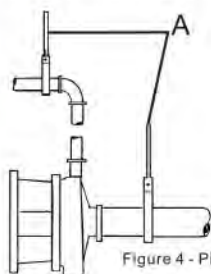

Figure 4 - Pipe Supports
- 3.7 Support supply and discharge piping near the pump so that no strain is put onto pump casing. (See Figure 4).